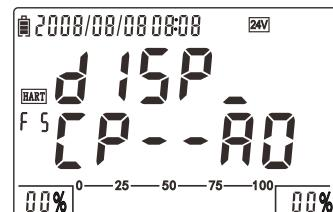

Figure 4-5-5-1: F5 entrance
- Switch to HART function 5 by pressing , as figure 4-5-5-1.
- As figure 4-5-5-2, screen shows CP and AO value by pressing ; the digits of CP and AO are determined by pressure and current respectively.
Under this interface, press to switch to the interface as figure 4-5-5-1;